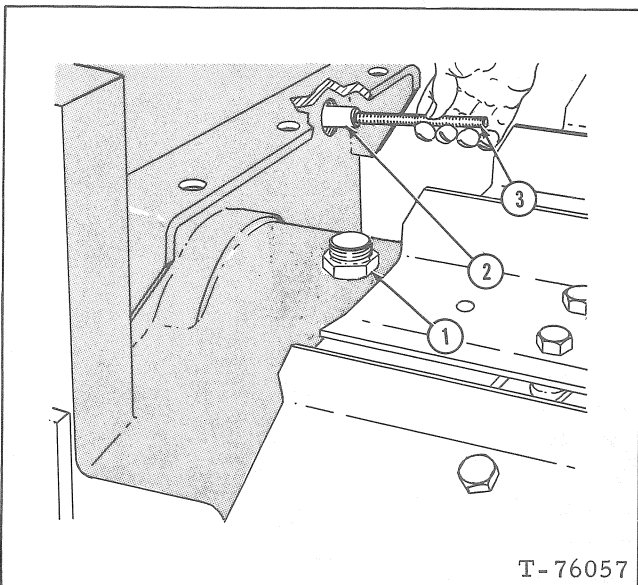

FIG. 13 REMOVING BRAKE LEVER UPPER PIN
Remove plug from side of steering clutch compartment, Fig. 13; turn band adjusting block Fig. 23 (12) counter-clockwise to loosen brake band until brake lever upper pin (15) can be seen through plug hole. Use puller screw to remove brake lever upper pin, Fig. 13.